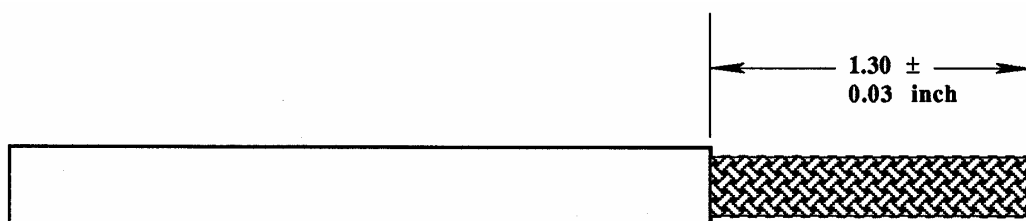

Figure 5-3. Cable Jacket Initial Stripping
2. Strip the cable jacket as shown in Figure 5-3.